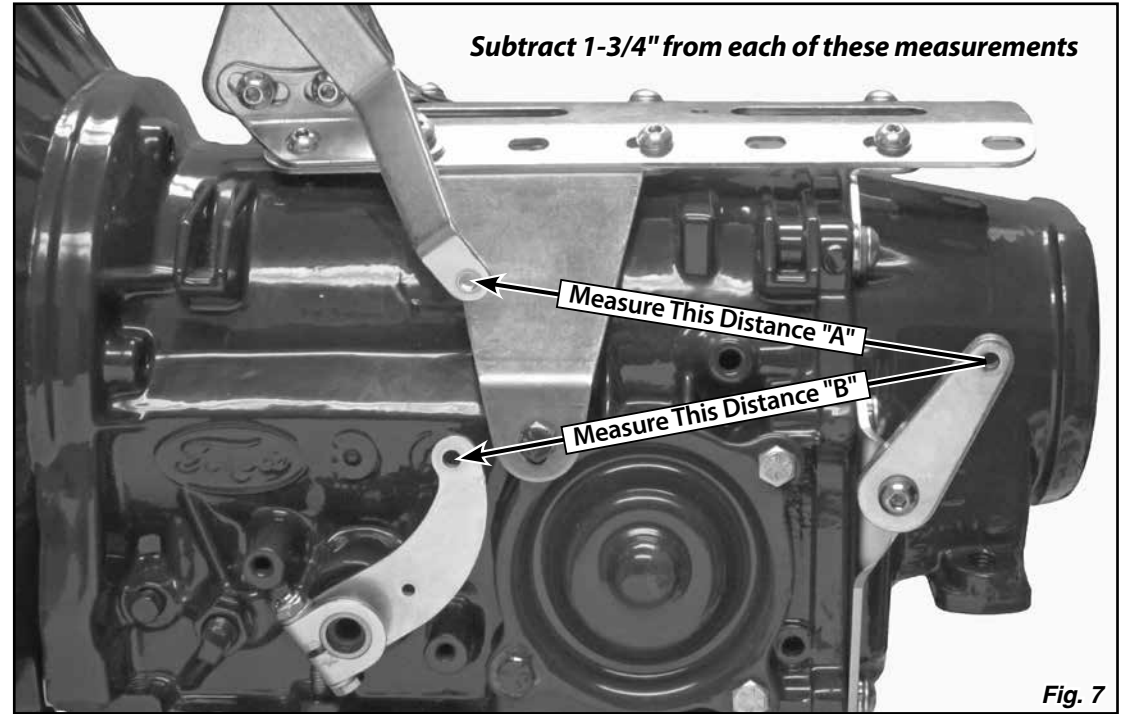

Fig. 7
Step 6: Measure the distance from the center of the 1/4" hole in the linkage arm to the center of the 1/4" hole in the quad lever on the shifter (**Fig. 7** distance "A"). Subtract 1-3/4" from your measurement and write it down.
Next, measure the distance from the center of the 1/4" hole in the linkage arm to the center of the 1/4" hole in the trans arm on the selector shaft (**Fig. 7** distance "B"). Subtract 1-3/4" from your measurement and write it down.